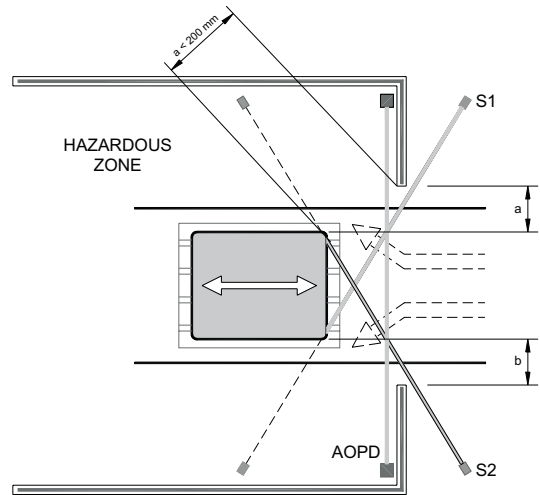

Figure 7
- Muting sensors S1 and S2 must be positioned such that the point of intersection of the two beams is in the hazardous area beyond the safety light curtain (see Figure 7).